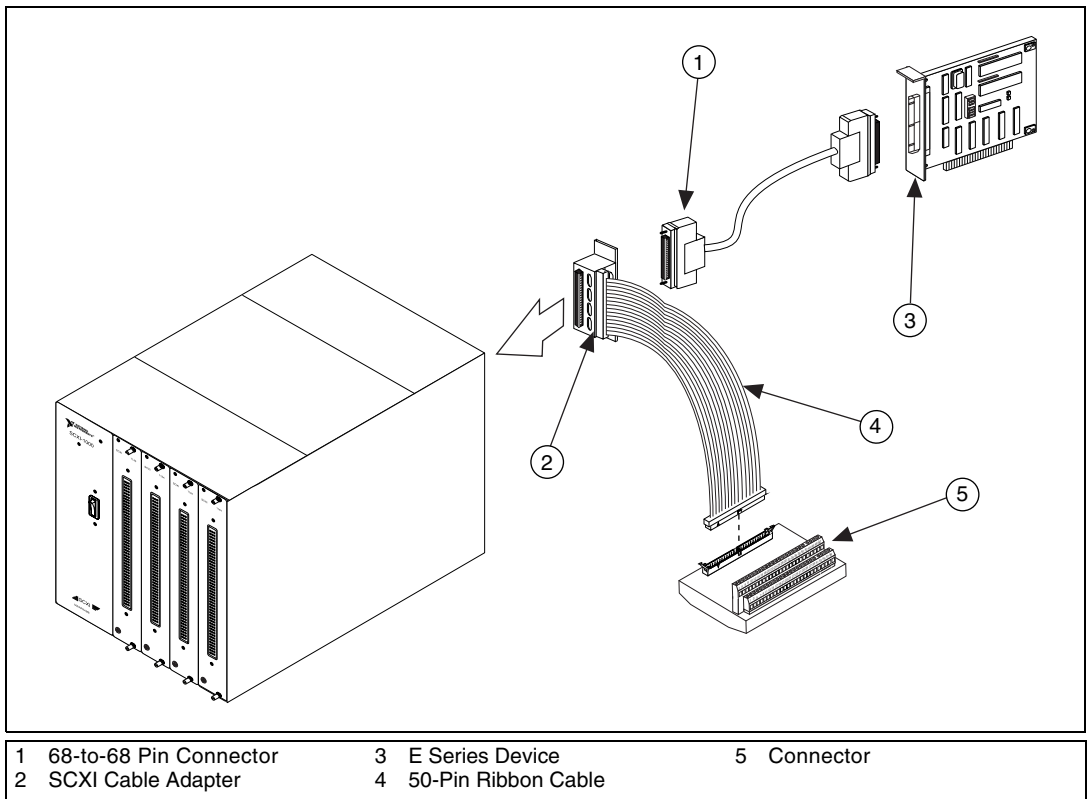

Figure 1. Connecting an SCXI Module to an E Series Device and a Terminal Block
To make sure your module is ready for calibration, refer to Figure 1 as you perform the following steps:
6. Connect the DMM HI voltage input to pin 3 of the 50-pin connector block as shown in Figure 1.
7. Connect the DMM LO voltage input to pin 4 of the 50-pin connector block as shown in Figure 1.